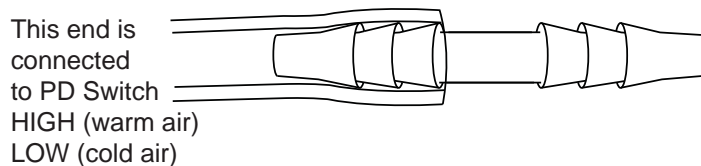

Fig. 17c
17.5 Push one end of the plastic tube onto the probe outlet. Slip the other end of the tube onto the plastic barbed connector at the end of the tubing already attached to the humidifier for a warm air installation or connect the plastic tube to the LOW barbed connector on the PD Switch located below the electronic control board for a cold air return installation of the probe. Please see Fig. 17c.